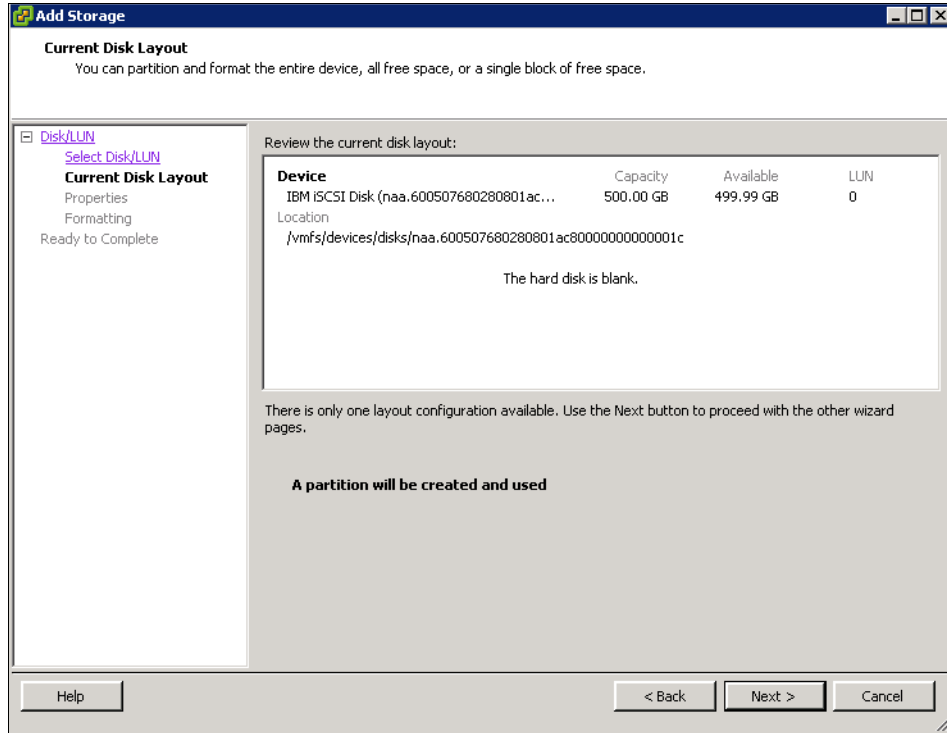

Figure 12-57 Current Disk Layout
9. Review the disk layout and click **Next** (Figure 12-57).